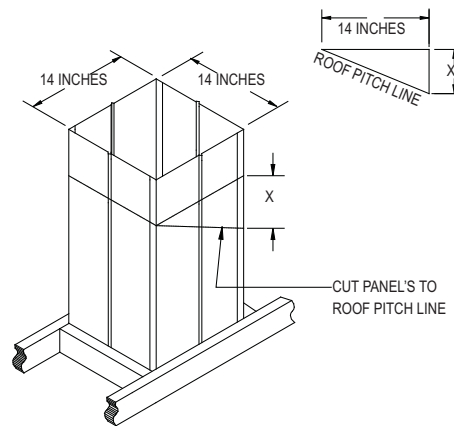
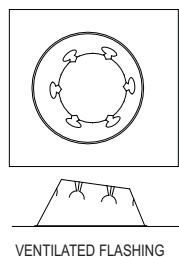

Figure 8
Figure 10
5. Cut Roof Opening: Cut an opening in the roof directly above the opening below, and at least 4 inches larger than the chimney's outside diameter to provide at least a 2-inch clearance all around the chimney. If the installation is located between rafters that are 16 inches on center, Close Clearance Shields (a sheet metal product fabricated by DuraVent), may be used to avoid structural reframing. (**Figure 8**). The 2-inch minimum clearance to combustibles is not required when the chimney passes through Close Clearance Shields. When using Close Clearance Shields, Ventilated Flashing must be installed. Refer to **Figure 10**, which pictures both Ventilated and Non-ventilated Flashing.